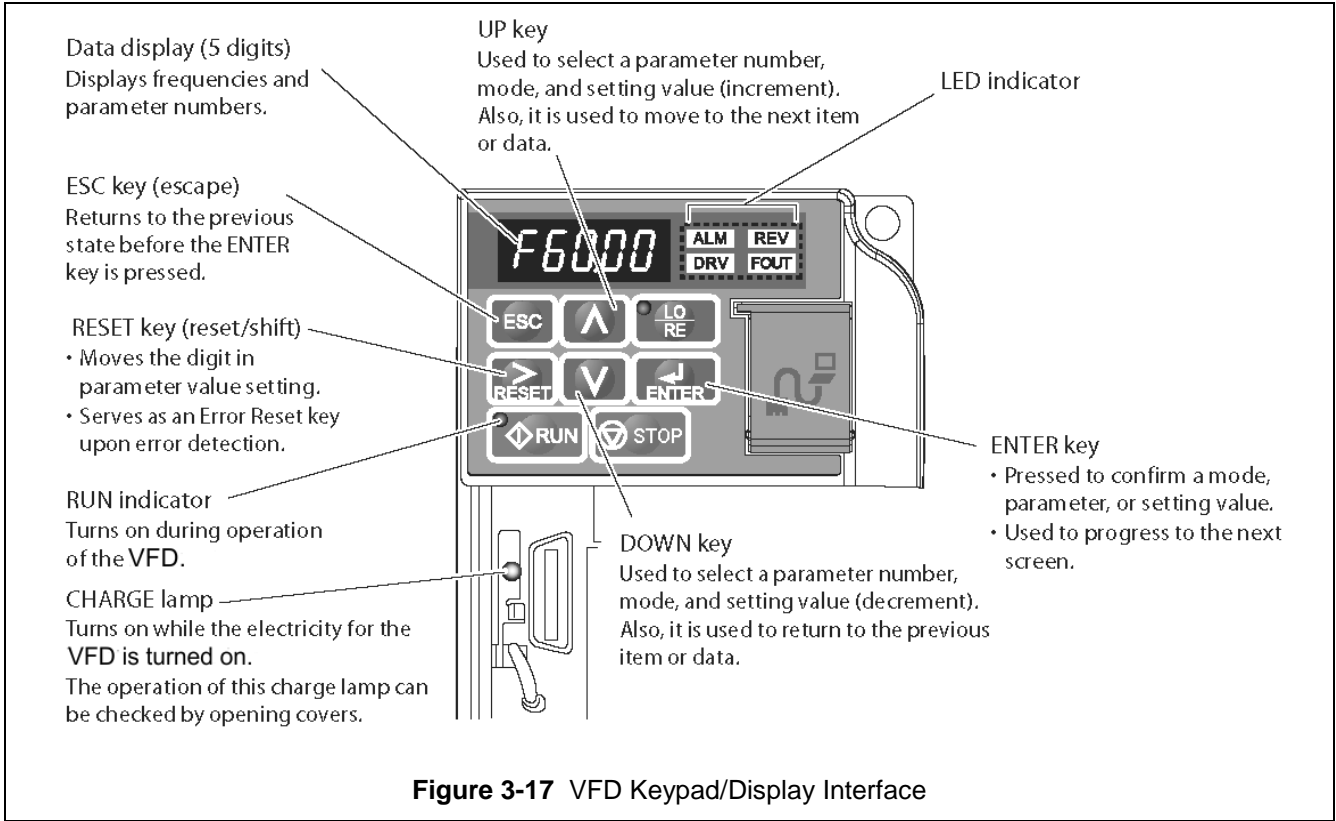

Figure 3-17 VFD Keypad/Display Interface
- 3.8.7 The VFD is controlled by a Keypad/Display Interface. Refer to **Figure 3-17** for Keypad/Display Interface functions and descriptions.